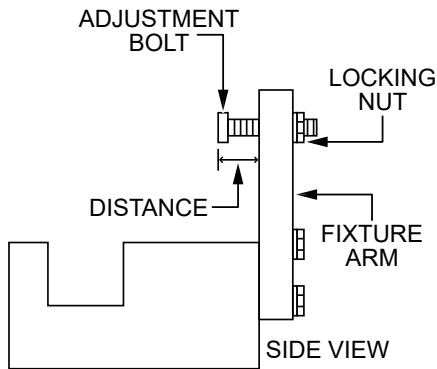

Figure 51. Trowel Arm Adjustment Tool (Side View)
Figure 51 illustrates a **trowel arm adjustment tool**. As a trowel arm is locked into the adjustment tool, the trowel arm bolt is adjusted to where it contacts a stop on the fixture. This will consistently adjust all of the trowel arms, keeping the finisher as flat and evenly pitched as possible.
3. Adjust the fixture **adjustment bolt distance** shown in Figure 51 to **0.15 in. (3.81 mm)**.